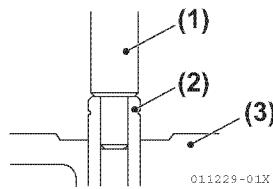
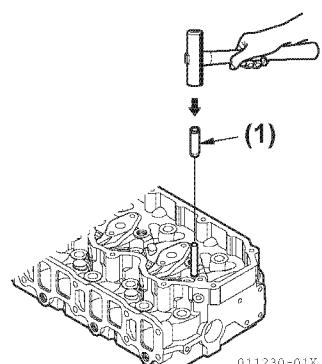

Figure 5-73
Figure 5-74
- Check the inside diameter and finish to the standard inside diameter as required with a reamer (**Figure 5-73**) and (**Figure 5-74**).